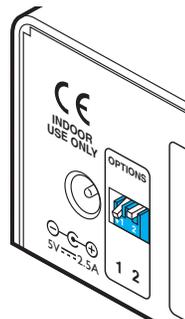

Figure 3-14. Click down option switch 1 to the ON position.
- 3 On the rear panel, click option switch 1 to the ON (down) position. See Figure 3-14.